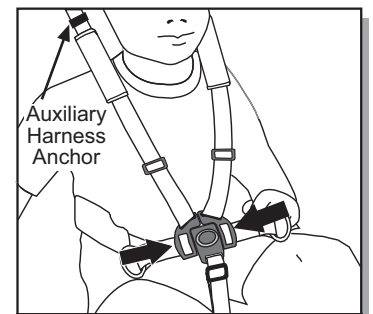

Fig. 20 Fasten Crotch Strap/ Buckle.
- Fasten shoulder straps. Insert both shoulder strap buckles into crotch strap buckle (Fig. 20).
NOTE: For heavier and or taller passengers (closer to the maximum limits above), auxiliary harness anchors may be utilized by unfolding anchor Velcro (Fig. 20), sliding buckles above anchors, and reconnecting Velcro to keep buckles in place.